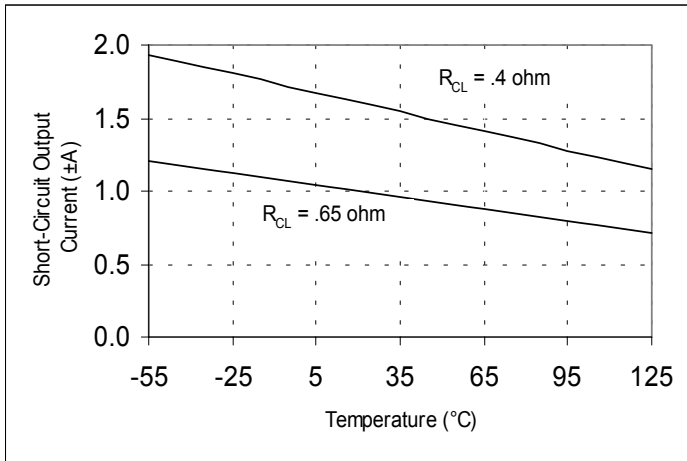

Figure 1. Typical Short-Circuit Output Current vs. Current Limiting Resistors ($\pm R_{CL}$)
3. It is recommended that external current limiting resistors ($\pm R_{CL} \geq 0.4\ \Omega$) be used to ensure that 2.0 A is not exceeded. See Figures 1, 2 and 4 for R_{CL} application information.